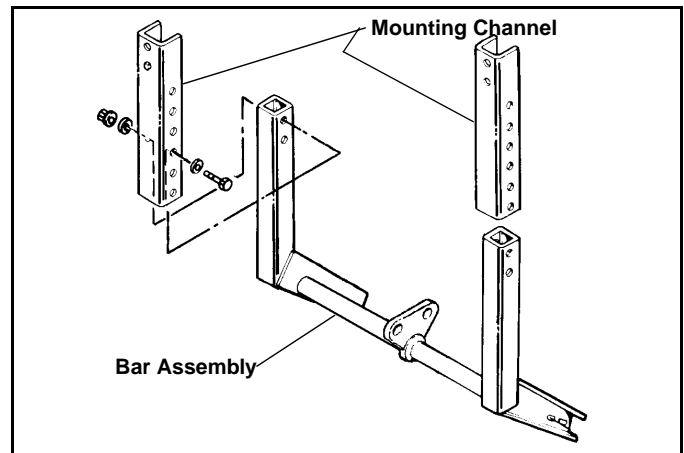

Figure 4
2. Attach Mounting Channels (#18) to Lower Bar Assembly using four (4) 3/8" x 3" Capscrews (#21), Washers (8 required) and Nylock Nuts Provided. (See Figure 4)